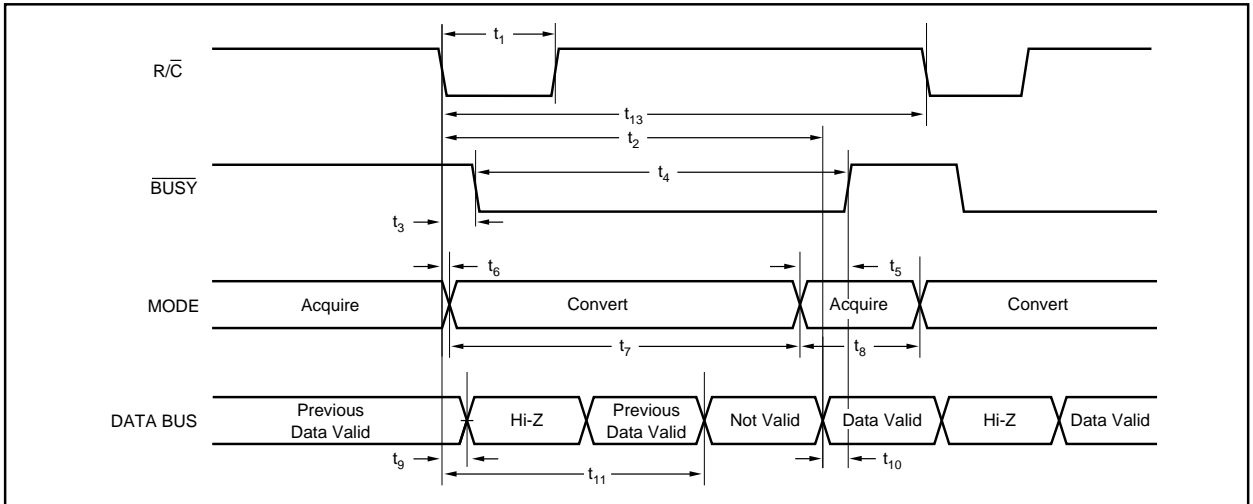

FIGURE 3. Conversion Timing with Outputs Enabled after Conversion ( $\overline{CS}$  Tied LOW.)
Table II for a summary of  $\overline{CS}$ ,  $\overline{R/C}$ , and  $\overline{BUSY}$  states and Figures 3 through 5 for timing diagrams.
NOTE: (1) See Figures 3 and 4 for constraints on data valid from conversion "n-1".
After conversion 'n' is completed and the output registers have been updated,  $\overline{BUSY}$  (pin 26) will go HIGH. Valid data from conversion 'n' will be available on D15-D0 (pin 6-13 and 15-22).  $\overline{BUSY}$  going HIGH can be used to latch the data. Refer to Table IV and Figures 3 and 5 for timing specifications.
After conversion 'n' has been initiated, valid data from conversion 'n-1' can be read and will be valid up to  $7\mu s$  after the start of conversion 'n'. Do not attempt to read data from  $7\mu s$  after the start of conversion 'n' until  $\overline{BUSY}$  (pin 26) goes HIGH; this may result in reading invalid data. Refer to Table IV and Figures 3 and 5 for timing specifications.
The number of control lines can be reduced by tying  $\overline{CS}$  LOW while using  $R/\overline{C}$  to initiate conversions and activate the output mode of the converter. See Figure 3.